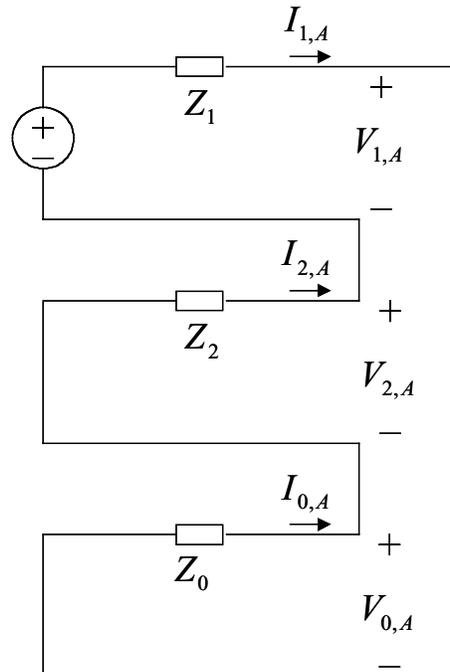

Figure 1 Sequence circuit during a single-phase fault.
Based on (3) and (6), Figure 1 shows the positive-, negative- and zero-sequence equivalent circuit after phase A single-phase fault.
The sequence voltages  $V_{1,A}$ ,  $V_{2,A}$ , and  $V_{0,A}$  can be calculated based on the circuit in Figure 1.